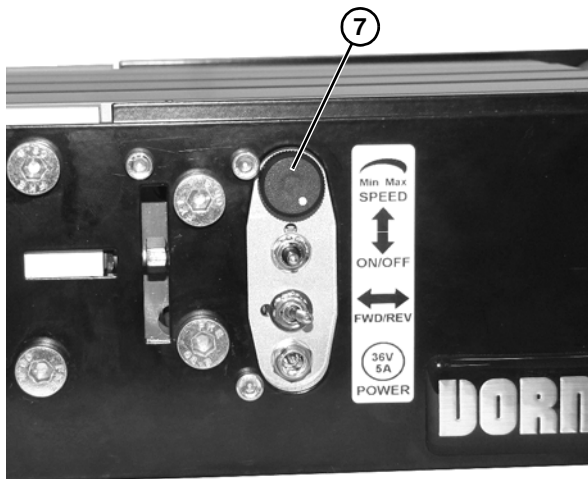

Figure 70
3. Turn speed pot (Figure 70, item 7) all the way down (Fully CCW).
5. Verify proper low and high speeds are achieved by turning speed pot (Figure 70, item 7) CCW to the lowest setting and the CW to the highest setting.